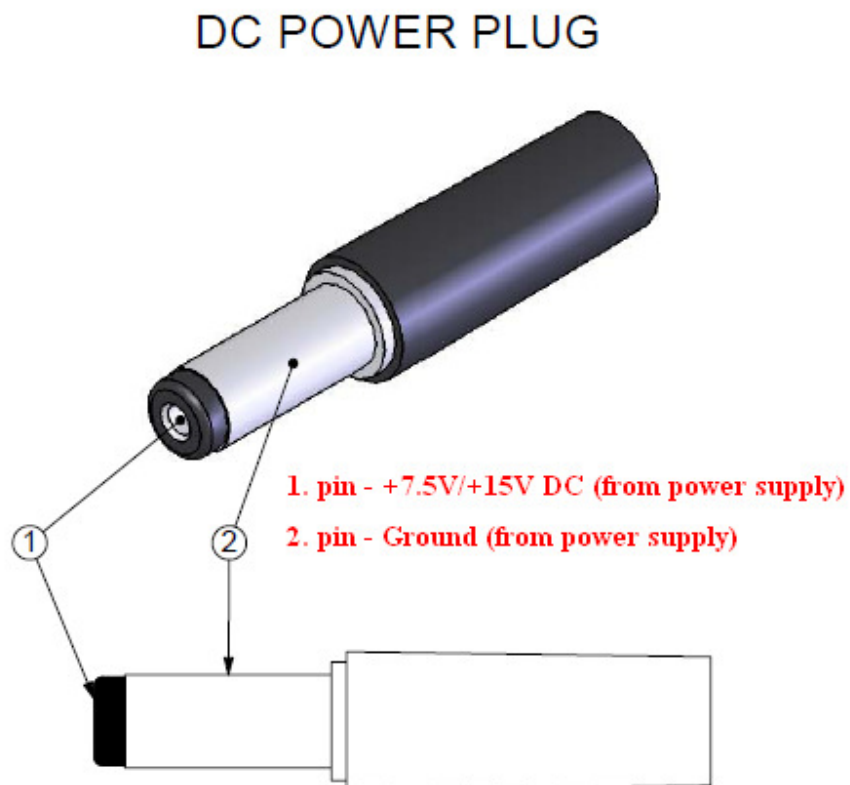

Figure 3 DC power plug pin-out
- 1.3** J8 connector (External Power Supply +7.5V) – it can be used to connect SDR to external power supply. External power supply required DC voltage from +7V up to +15V for the AFEDRI SDR-Net rev.2.1 and down, and for the AFEDRI SDR-Net rev.2.2 and up DC voltage from +7V up to +10V is required. The 2.5mmX5.5mm DC power Plug is needed for external power supply cable assembly. The external power supply can be used when AFEDRI SDR-Net receiver is used in Network mode. The pin-out for external power supply cable is shown on **Figure.3**